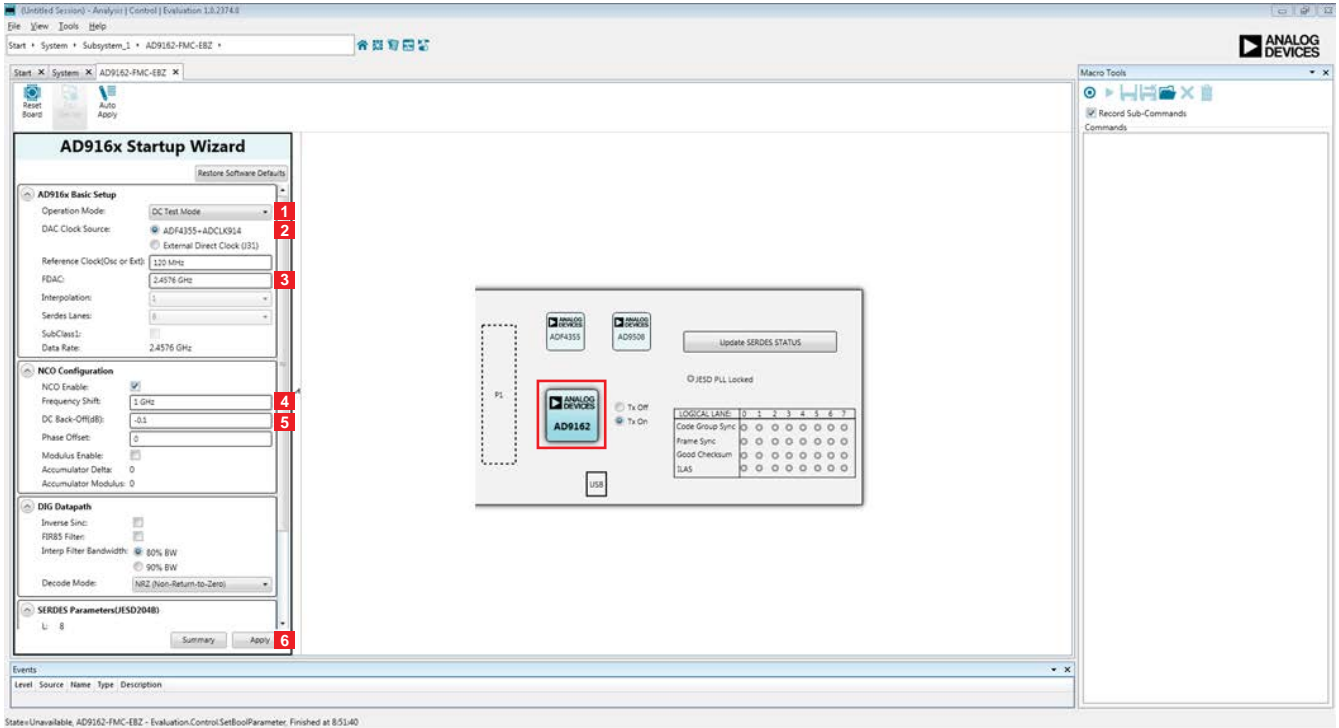

Figure 6. AD9161, AD9162, AD9163, and AD9164 Evaluation Board View and Clock Source Selection in ACE
4. For **DAC Clock Source**, click **ADF4355-ADCLK914** as shown in Figure 6.